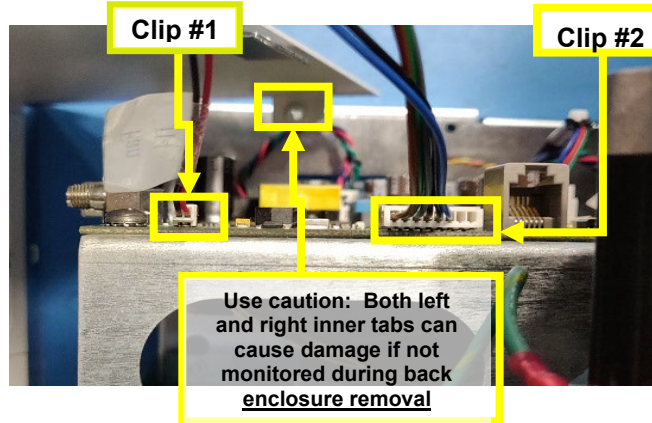

Figure 4
- 2.5. Once you have the back and front enclosures split as shown above, you will see two sets of wires leading from the printer (Clip 2) and fan (Clip 1) to the mainboard. Disconnect these two wire sets from the top of the mainboard. Figure 4